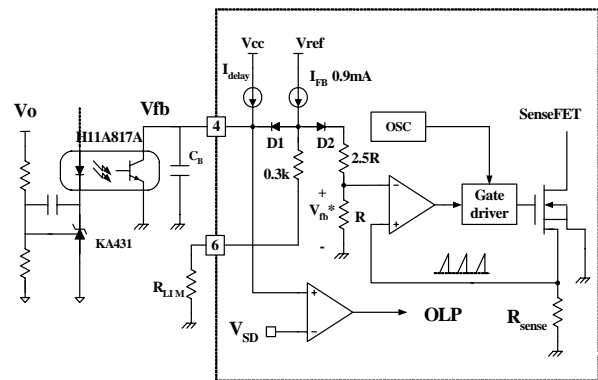

Figure 18. Pulse Width Modulation (PWM) Circuit
2. Feedback Control: The FSCM0565R employs current mode control, as shown in Figure 18. An opto-coupler (such as the H11A817A) and a shunt regulator (such as the KA431) are typically used to implement the feedback network. Comparing the feedback voltage with the voltage across the R_{sense} resistor makes it possible to control the switching duty cycle. When the reference pin voltage of the KA431 exceeds the internal reference voltage of 2.5V, the H11A817A LED current increases, thus pulling down the feedback voltage and reducing the duty cycle. This event typically happens when the input voltage is increased or the output load is decreased.
2.1 Pulse-by-pulse Current Limit: Because current mode control is employed, the peak current through the SenseFET is determined by the inverting input of the PWM comparator (V_{fb}*) as shown in Figure 18. When the current through the opto transistor is zero and the current limit pin (#5) is left floating, the feedback current source (I_{FB}) of 0.9mA flows only through the internal resistor (R+2.5R=2.8k). In this case, the cathode voltage of diode D2 and the peak drain current have maximum values of 2.5V and 2.5A, respectively. The pulse-by-pulse current limit can be adjusted using a resistor to GND on the current limit pin (#5). The current limit level using an external resistor (R_{LIM}) is given by